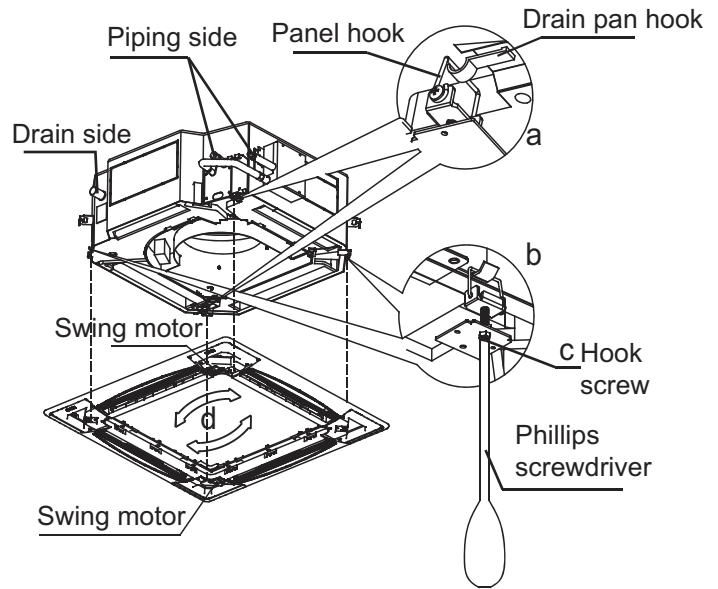

Figure 3.15
- (1) Align the "PIPING SIDE" and "DRAIN SIDE" sections marked on the panel with the corresponding copper pipe connection and water discharge connection in the unit body.
- (2) During installing, first hang the swing motor side of the panel and hook on opposite of the panel in the unit body to the corresponding drain pan hook (see Figure 3.15, a). Then, hang the two remaining panel hooks on the corresponding suspension bracket of the unit body of the indoor unit (see Figure 3.15, b).
- (3) Slot the guide wire of the swing motor to the card slot on the panel, and connect the leads from the swing motor, and display box from the panel to the corresponding connections on the unit body respectively. Take care to use protective casing to wrap the connection terminals, and use a reliable fixture to secure and strengthen the safety isolation of the terminals.
- (4) Adjust the four panel hook screws (see Figure 3.15, c) to keep the panel level, and lift it evenly up to the ceiling.
- (5) Adjust the panel slightly in the "d" direction (see Figure 3.15, d), so that the centre of the panel aligns with the centre of the opening of the ceiling. Verify that the hooks in all four corners are securely in place.